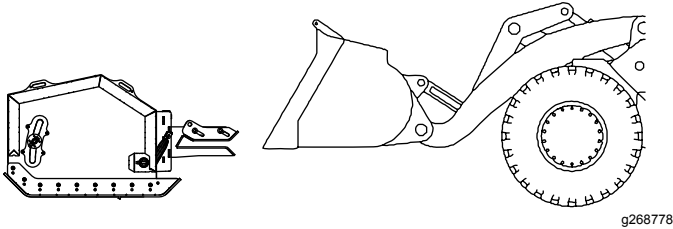

Figure 10
1. Slowly drive the vehicle toward the plow, level the bucket, and adjust the bucket height (Figure 10).
2. Slide the bucket between the attachment forks until it reaches the back of the forks (Figure 10).